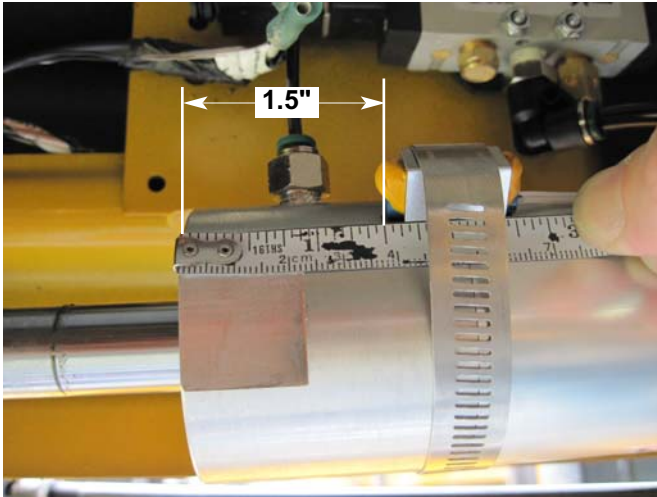

Figure 6
6. Install new entrance door position switch, #TBB 165692 with the new band clamp, #TBB164982 loosely on the actuator. Install the switch so that its end is one and one half inches (1.5") from the end of the actuator body. It should be positioned between 12 o'clock and 2 o'clock as referenced from the actuator fittings. The band clamp should be centered on the aluminum housing. Tighten the band clamp to 20 in-lbs. **Figures 6 & 7**